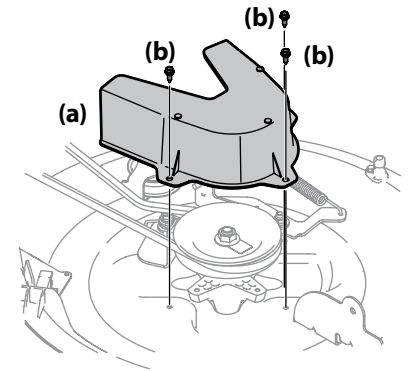
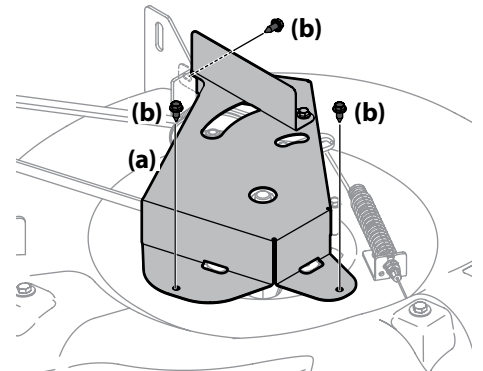

Figure 4-12
Figure 4-13
5. Remove the deck belt cover (a) by removing the three hex bolts (b) that secure it. See Figure 4-12 for 30" decks and Figure 4-13 for 24" decks.